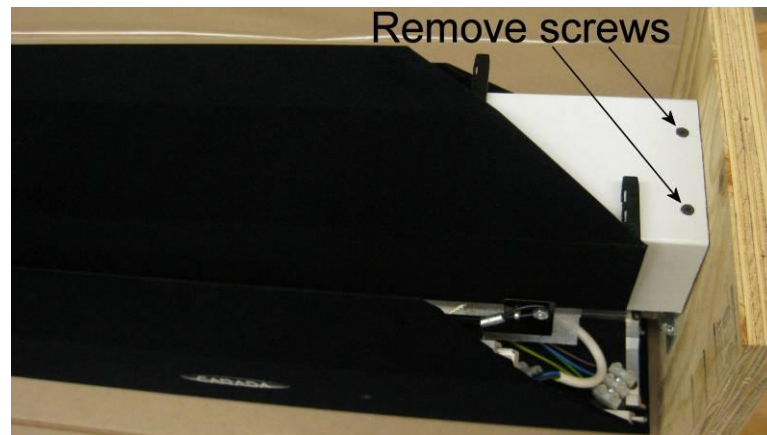

Figure 2
Step 2 - Remove Phillips head screws from the ends of white fiberboard support frames (Figure 2) and remove foam block(s) from center. Carefully lift short fascia members [part D] out of crate. Turn upside down and use a 1/2" socket to remove bolts from fiberboard support frames and set short fascia members aside in a safe place. Be careful with the fascia pieces so as not to damage the Black Hole® trim. Remove wall bracket [part G], remote, and hardware pack from inside long frame members.